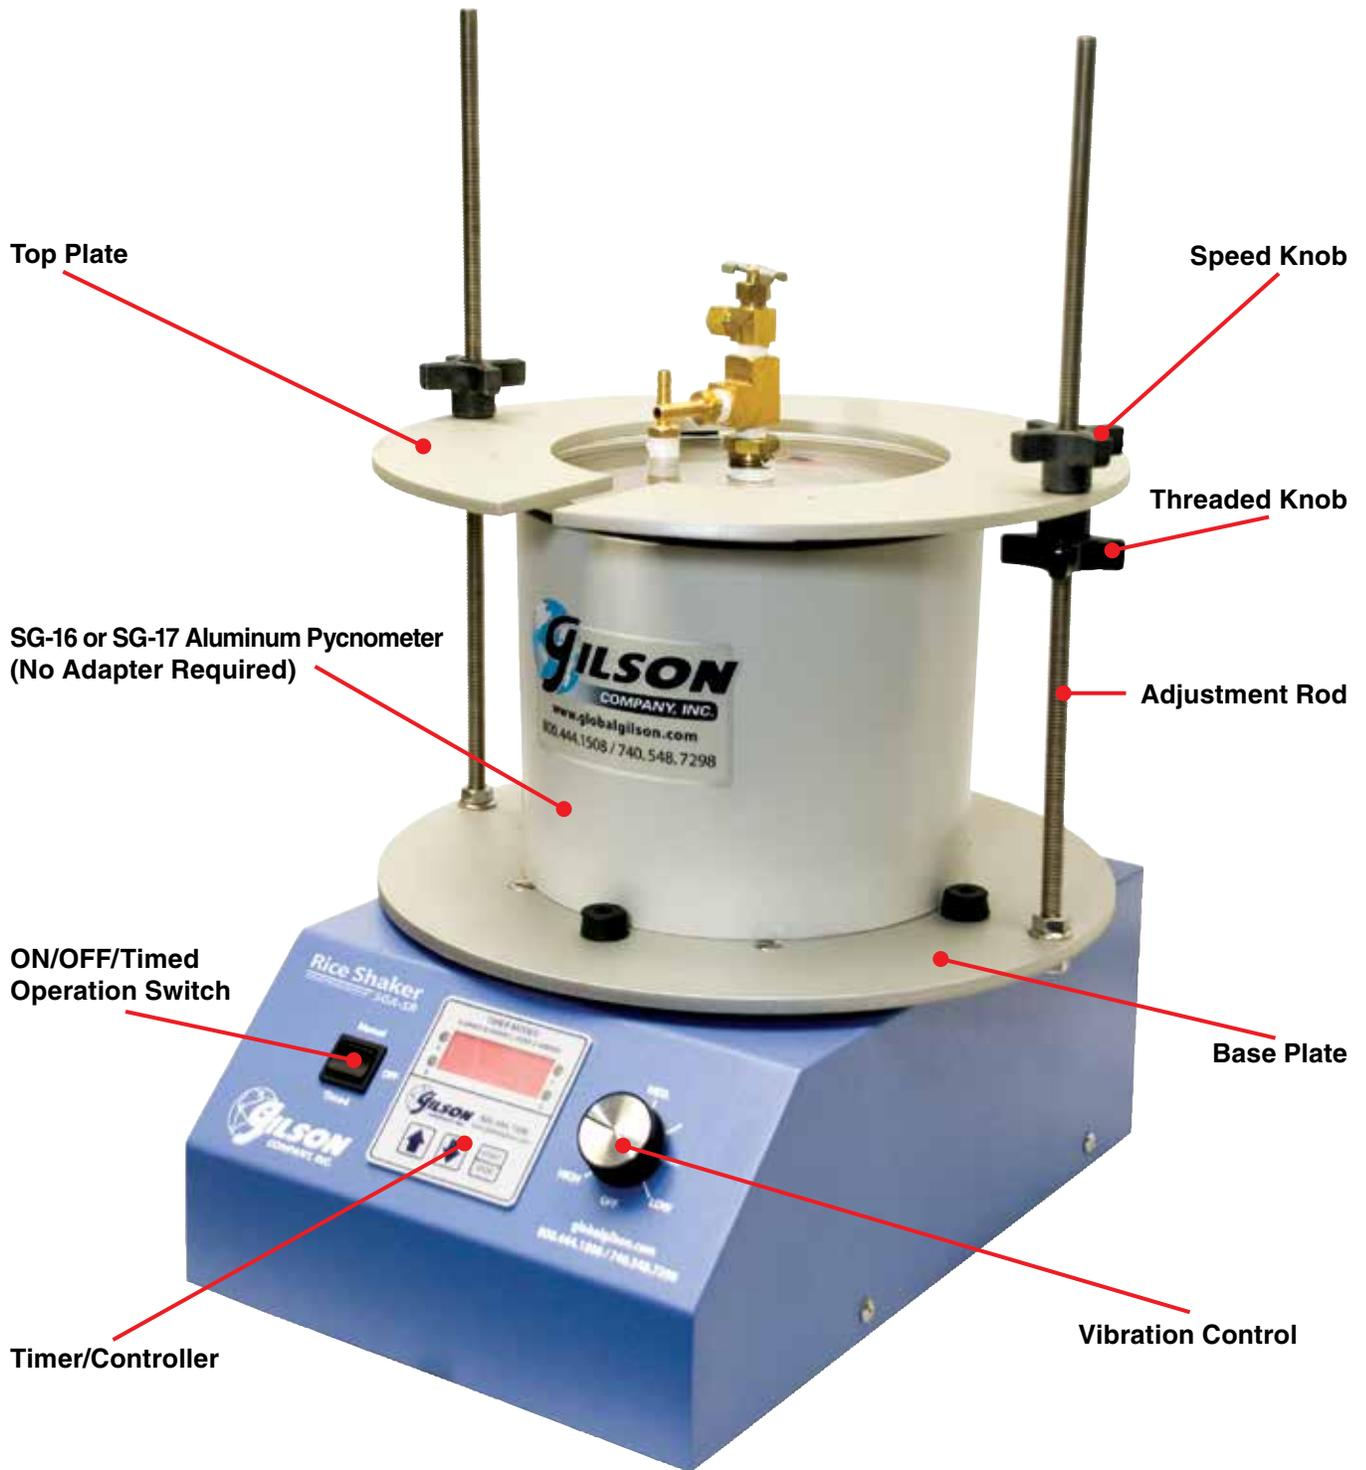

Figure 2
Place the pycnometer directly on the agitator base between the rubber bumpers. Slide the top plate over the adjustment rods, and position the rubber bumpers around the pycnometer (see Figure 2). Adjust the black plastic knobs until there is a small gap between the plate and the knobs. Drop the metal speed-knobs onto the rods and tighten so that the plate is pushed down slightly and contacts the bottom plastic knobs. Before turning on the Rice Shaker always check that both sets of knobs are secure.
5.2 Figure 2: Aluminum Pycnometer